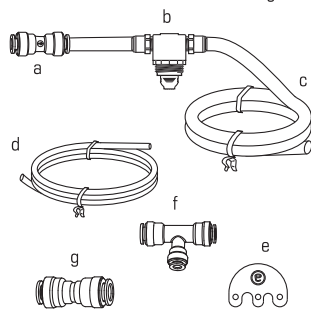

Fig. 24
3. Review bag labeled CXV3645, which contains components used with NON-eSpring installations (Fig. 24).
NOTE: The supplied components (Fig. 24) must be used between the valve at the water supply and the eSpring Carbon Water Treatment System.